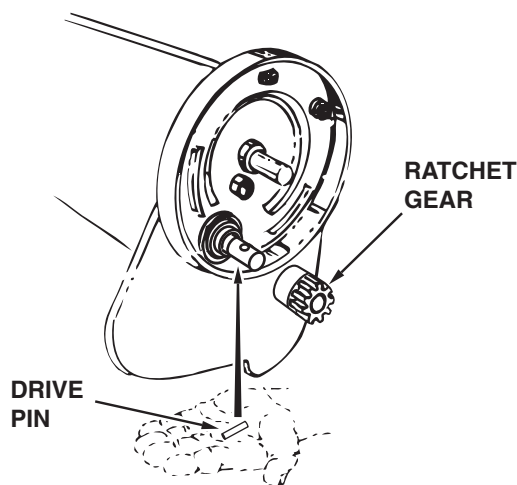

FIGURE 30
3. Remove the gear by sliding it off the brush shaft. (Look for the drive pin, which may fall out of the brush shaft when the ratchet gear is removed.) See figure 30.
4. To reassemble, insert the drive pin through the hole near the end of the brush shaft. Make sure the pin slides back and forth easily in the shaft. See figure 30.
5. Lightly grease the shaft and fill the ratchet gear with grease. Assemble the ratchet gear back onto the shaft. See figure 30.
6. Lightly grease the axle and the gear teeth on the wheel, and then reassemble the wheel. The brushes should rotate **only** during forward rotation of the wheel. If the brushes are driven (rotated) by both forward and reverse rotation of the wheel, the drive pin is jamming in the ratchet gear. Disassemble to clean and lubricate the drive pin and the ratchet gear. See figure 30.